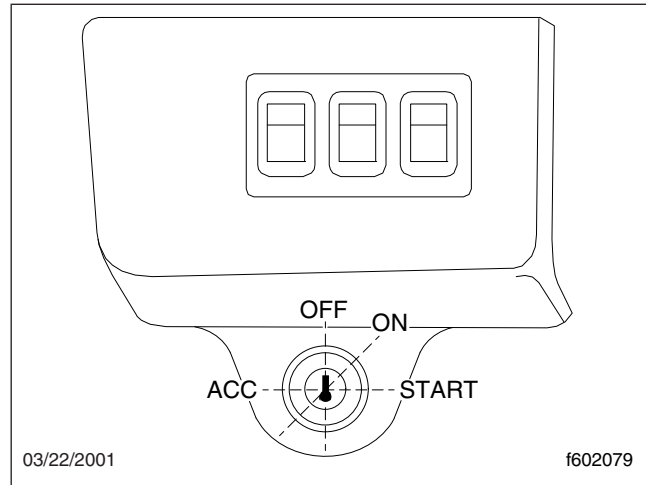

Fig. 7.7, Ignition Switch Positions
1. Turn the ignition switch to the on position. See Fig. 7.7. All the electronic gauges on the ICU (instrumentation control unit) complete a full sweep of their dials, the warning and indicator lights light up, and the buzzer sounds for 3 seconds.
1. Turn the ignition switch to the on position. See **Fig. 7.7**. All the electronic gauges on the ICU (instrumentation control unit) complete a full sweep of their dials, the warning and indicator lights light up, and the buzzer sounds for three seconds.
Turn the ignition switch to the on position. See Fig. 7.7.
The intake air preheater is activated by turning the ignition switch to the on position. See Fig. 7.7. If the engine is at normal temperature, the INTAKE HEATER indicator goes out after two seconds.